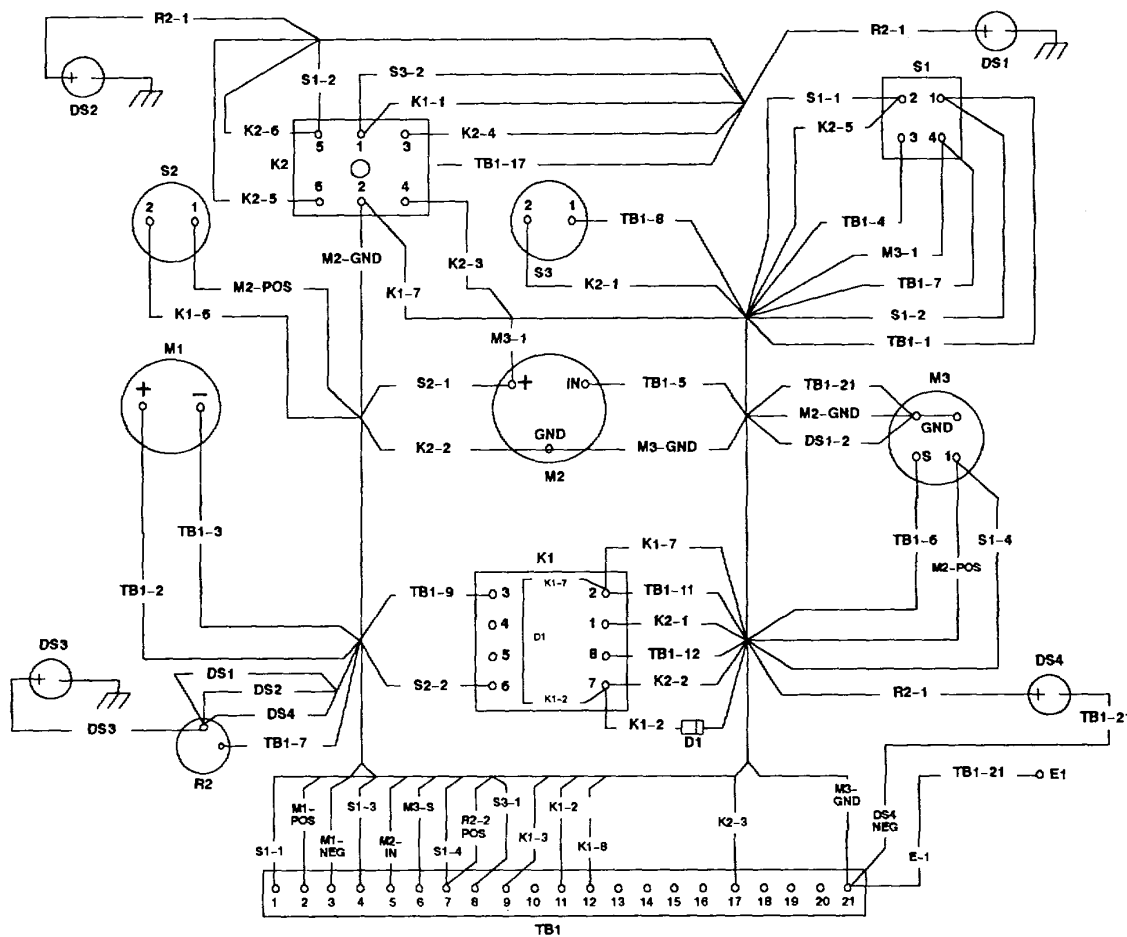

Figure 4-42.1 Control Panel Wiring Diagram (Model 350 PAFN).
- a. Check wiring harness assembly for continuity or short(Figure 4-42.1). If defective refer to paragraph 4.12.4.1.
- (1) Close switch (pulled out) and check for continuity between contacts 1/4 and 2/3.